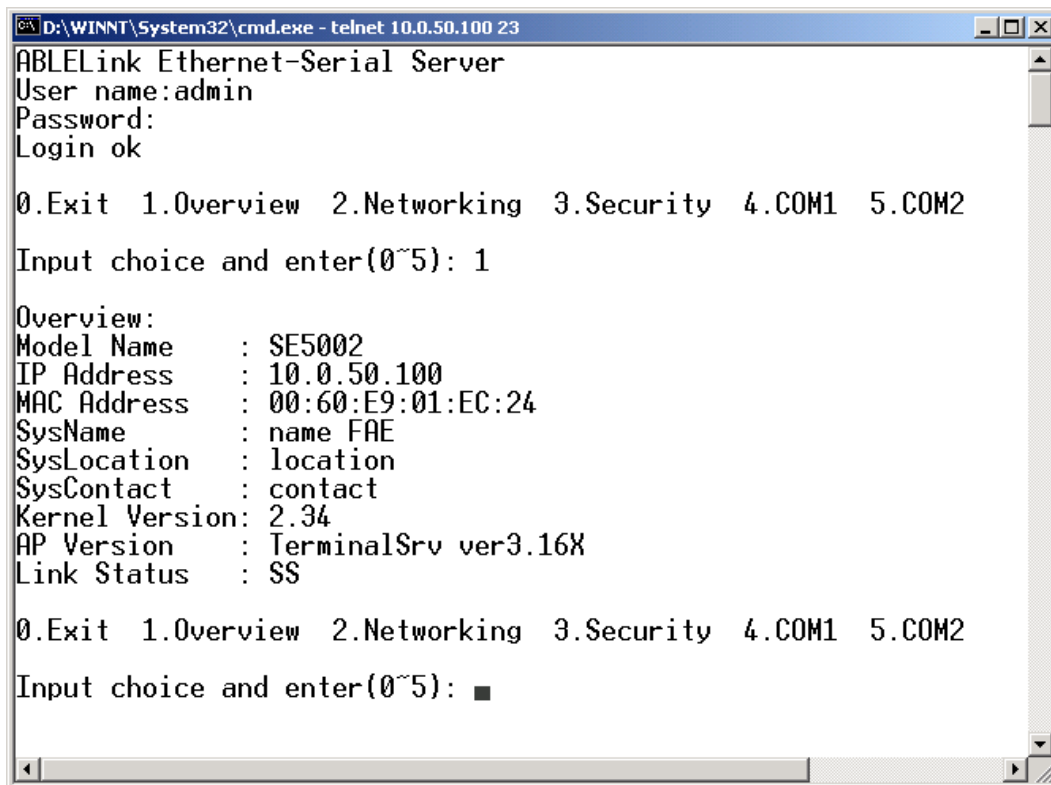

Fig. 11. System configuring using Telnet
->Select "1" from "**Input choice and enter (0~5):**" to enter "**overview**" .:(Fig. 11)